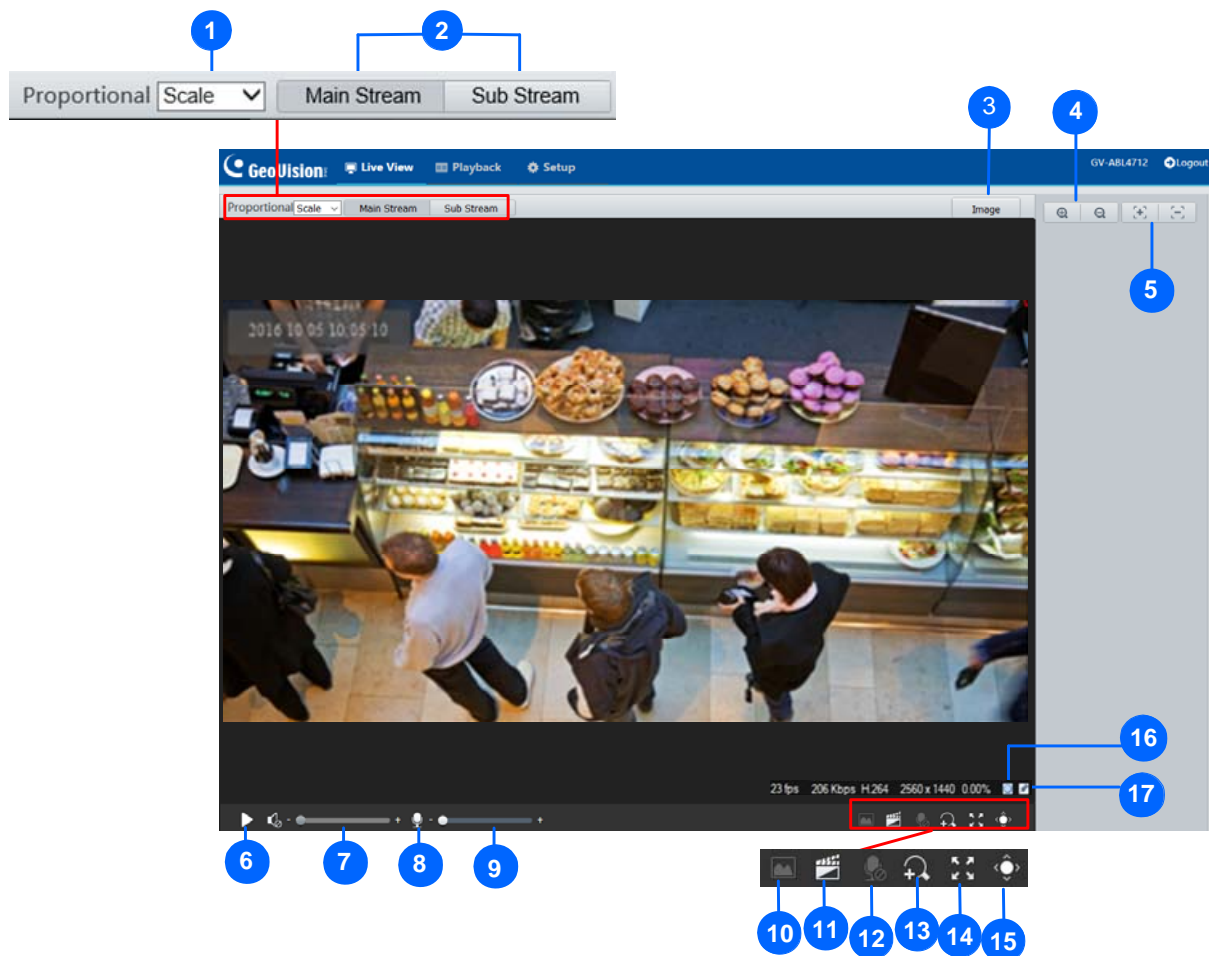

Figure 2-6
1. Click  (No. 10, Figure 2-6) on the toolbar.
4. To exit, click  (No. 10, Figure 2-6) on the toolbar.